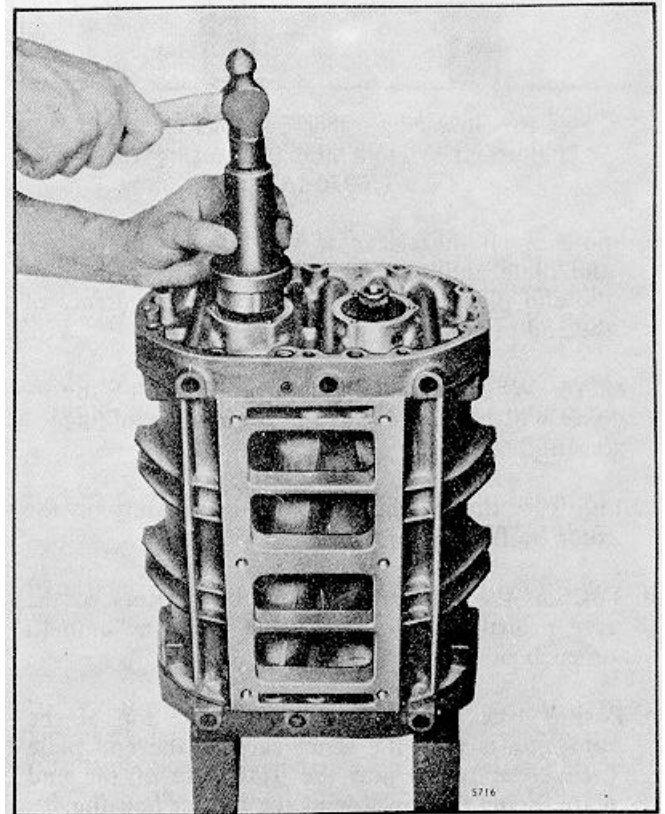

FIG. 15 - Installing Ball Bearings on Rotor Shaft and in Rear End Plate using Tool J 6270-13
- b. Place installer J 6270-13 on top of the bearing and tap the bearing straight on the shaft and into the rear end plate as shown in Fig. 15.